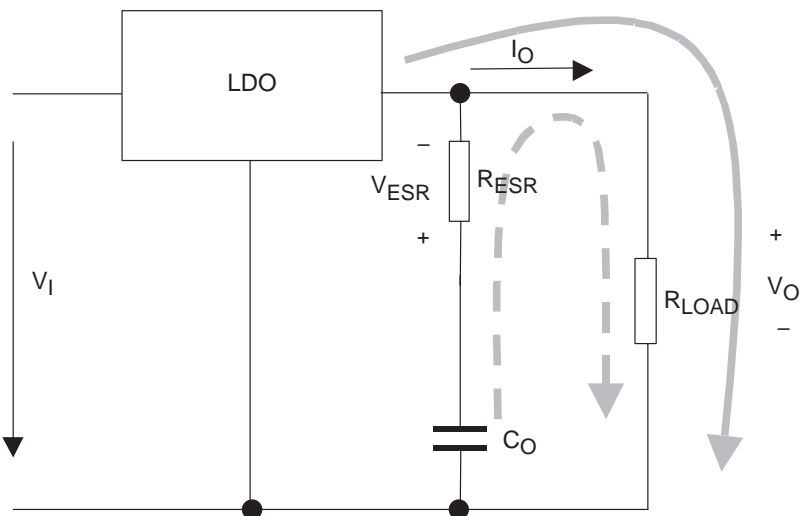
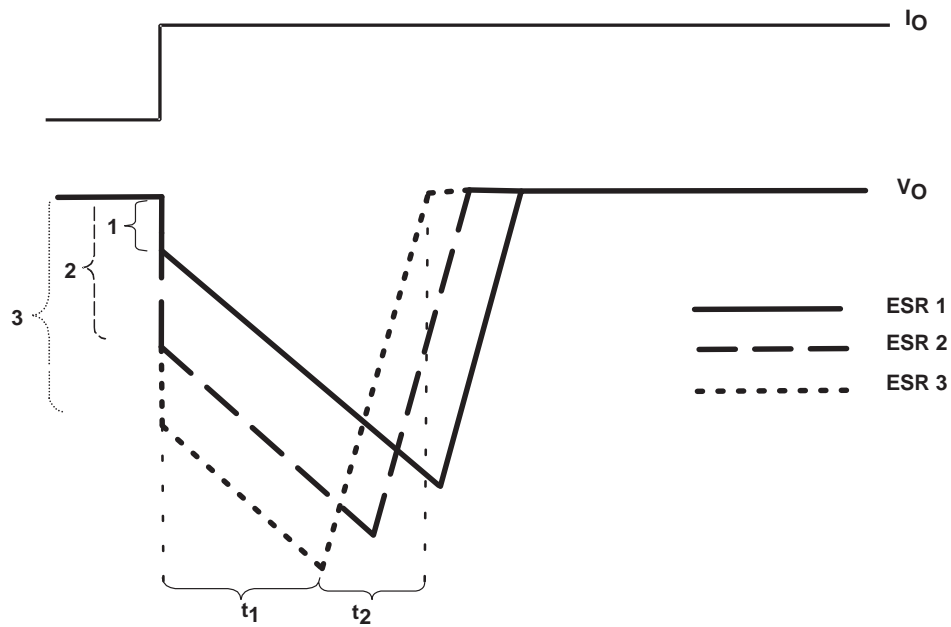

Figure 38. LDO Output Stage With Parasitic Resistances ESR
Figure 39. Correlation of Different ESRs and Their Influence to the Regulation of V_o at a Load Step From Low-to-High Output Current
Figure 38 shows the output capacitor and its parasitic impedances in a typical LDO output stage.
- The LDO is not able to supply the sudden current need due to its response time (t_1 in Figure 39). Therefore, capacitor C_O provides the current for the new load condition (dashed arrow). C_O now acts like a battery with an internal resistance, ESR. Depending on the current demand at the output, a voltage drop will occur at R_{ESR} . This voltage is shown as V_{ESR} in Figure 38.
- When C_O is conducting current to the load, initial voltage at the load will be $V_O = V(C_O) - V_{ESR}$. Due to the discharge of C_O , the output voltage V_O will drop continuously until the response time t_1 of the LDO is reached and the LDO will resume supplying the load. From this point, the output voltage starts rising again until it reaches the regulated voltage. This period is shown as t_2 in Figure 39.